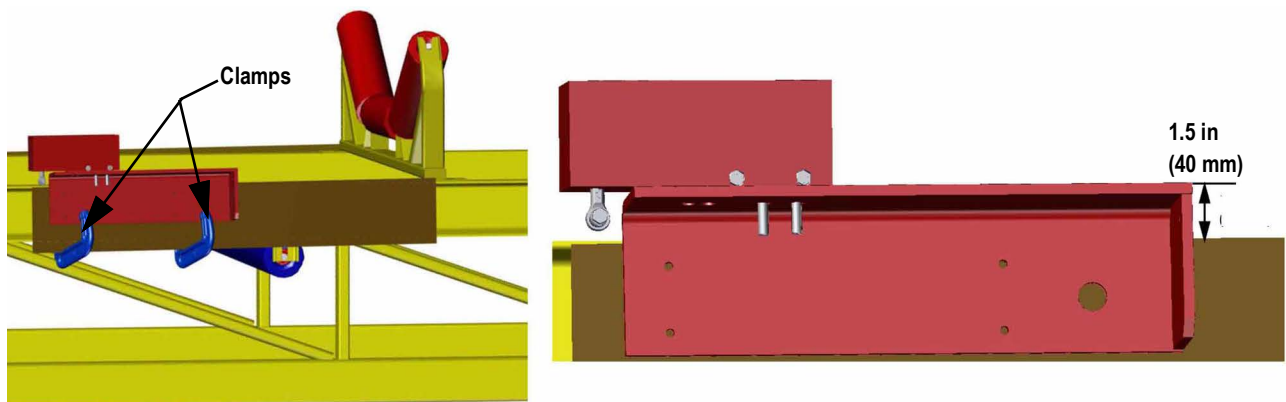

Figure 2-5. Use Clamps to Position Weldment
- Using clamps, position each weldment into the proper position. The top of the weigh frame should be positioned 1.5 in (38.1 mm) above the stringer to allow clearance for the idler station when bolted back into place (see Figure 2-5). Ensure the long end of the lever arm points in the same direction as the belt travel.